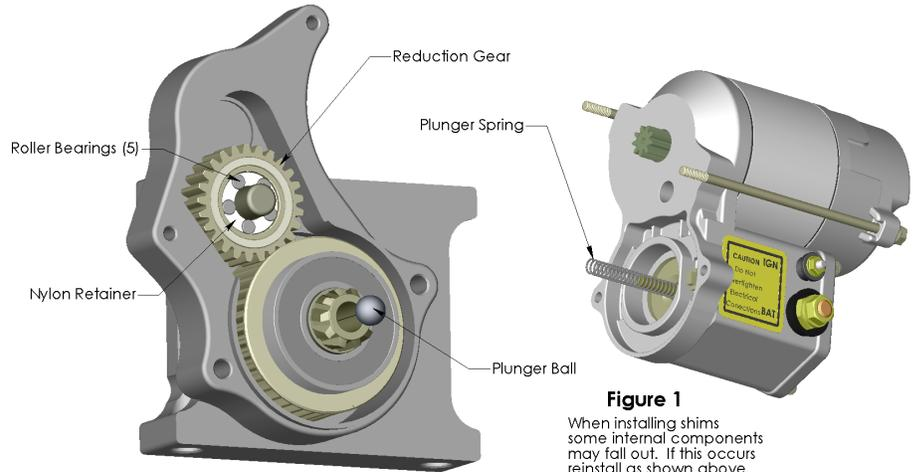

Figure 1
2. Carefully remove the mounting block from the starter. Observe where all internal parts are located upon disassembly. Some parts may fall out if care is not taken (Figure 1).